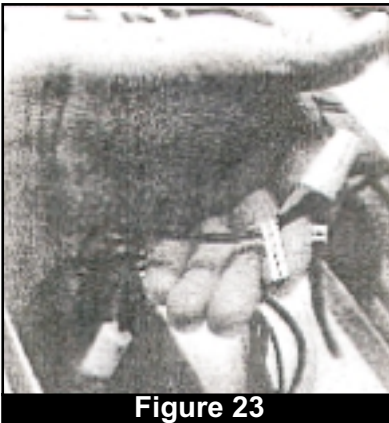

Figure 23
2. Mark all the wires connected to the power cord with a color code or number to make proper re-connection easy. (Fig. 23)